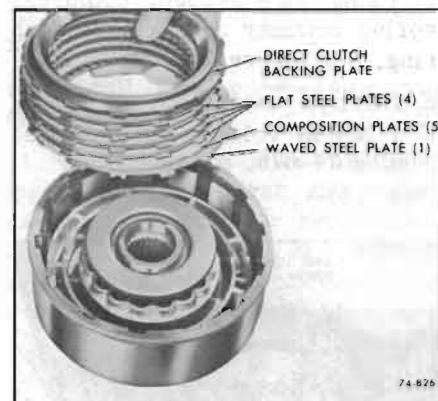

Figure 74-673
4. Remove direct clutch backing plate, (five) 5 composition and (five) 5 steel clutch plates. See Figure 74-673.